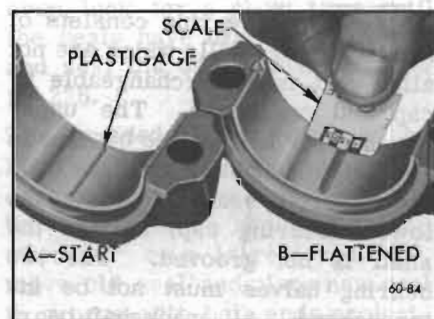

Figure 60-224—Checking Bearing Clearance With Plastigage
2. Place a piece of Plastigage lengthwise along the bottom center of the lower bearing shell (Figure 60-224, View A), then install cap with shell and tighten bolt nuts to 35 lb. ft. torque.
5. Using the scale printed on the Plastigage envelope, measure the flattened Plastigage at its widest point. The number within the graduation which most closely corresponds to the width of Plastigage indicates the bearing clearance in thousandths of an inch. See Figure 60-224, View B.